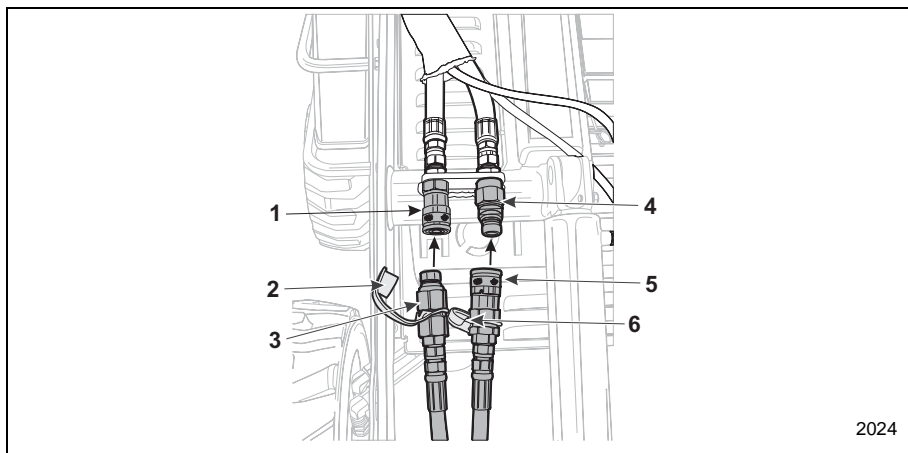

Figure 1-6 Auxiliary Hydraulic Quick Connects
- b. Remove the protective covers (Items 2, 6, **Figure 1-6**) from the attachment quick connectors.
- c. Wipe off the end of each of the connectors (Items 3 and 5, **Figure 1-6**) to remove any dirt or debris.
- d. Insert the attachments' male coupling (Item 3, **Figure 1-6**) into the female bulkhead quick connect coupling (Item 1, **Figure 1-6**) on the machine and push until the connector locks into position.
- e. Repeat the above process to connect the attachments' female quick connect (Item 5, **Figure 1-6**) on the other hose to the male bulkhead connector (Item 4, **Figure 1-6**) on the machine.